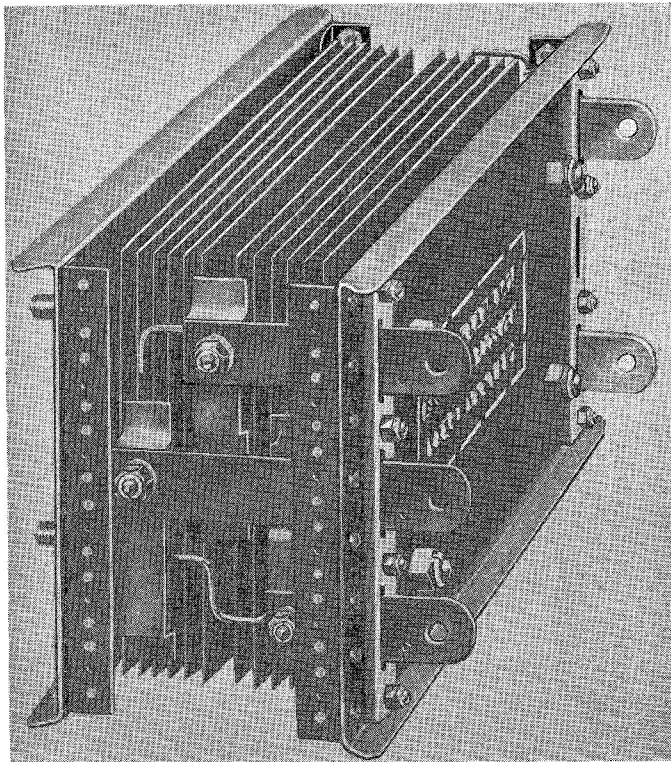

Fig. 1. General view, rectifier, Type 690
1. The Type 690 selenium-compound rectifier (*fig. 1*) has been designed for providing a d.c. supply directly from the main engine-driven a.c. generator in certain aircraft. The rectified full-load power output from each unit is 250 amp. at 28V, d.c.